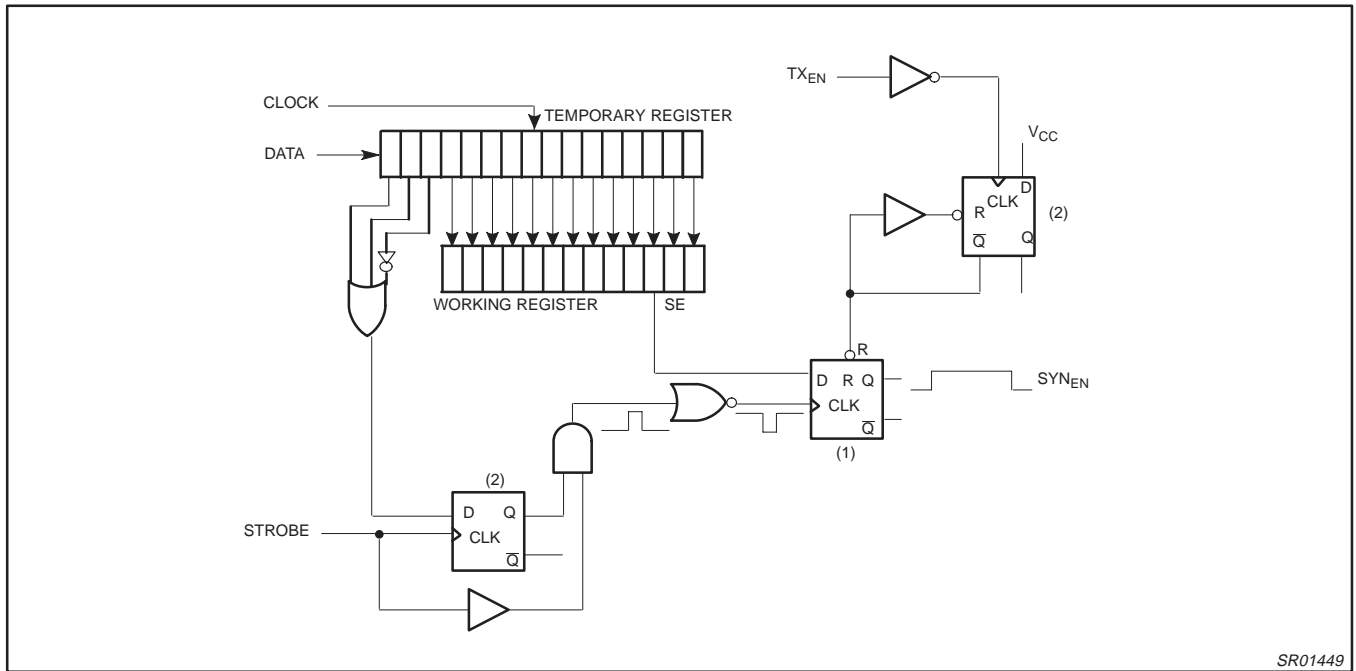

Figure 6. Transmit Offset Synthesizer Reset Circuit
In Figure 6, the falling edge of the strobe and address, inverted, toggles the Q output of flip-flop (1) to a '1' state, enabling the phase detector, VCO, divide by M, TX_{IF} buffer and SSB up-converter. Approximately 80µs after the synthesizer is locked, the TX_{EN} signal (enabled = 1) turns on the modulator and variable gain amplifier. The rising edge of TX_{EN} has no effect on SYN_{EN} , however, the falling (rising inverted) edge toggles the \bar{Q} output of D flip-flop (2) to a '0' state. This disables the synthesizer, modulator and variable gain amplifier. To insure that slow edges on TX_{EN} do not cause improper operation, the TX_{EN} is a Schmitt trigger design.